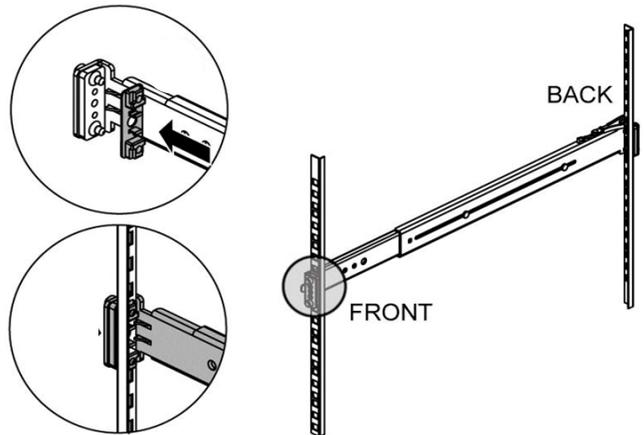

Figure 6. Attaching Front of Rail
- b. Insert the plastic insert over the front inside flange pins (Figure 6).